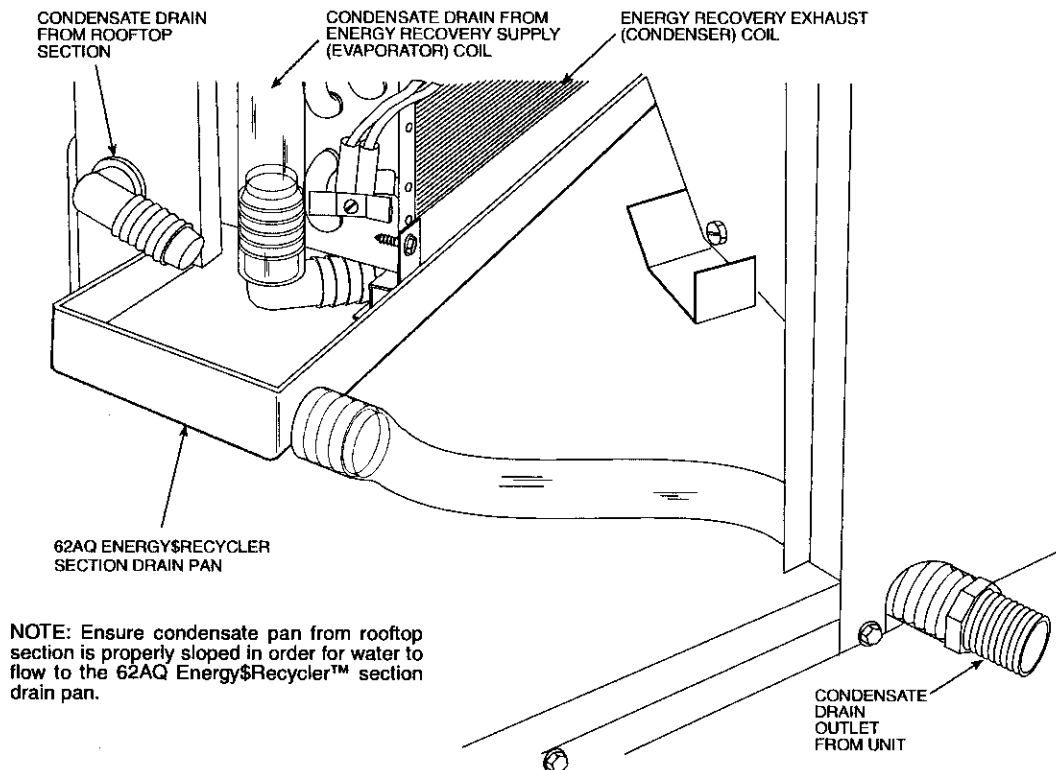

Fig. 12 — Condensate Drain Location
Step 7 — Install External Trap For Condensate Drain — The condensate from the rooftop unit along with condensate from the upper coil of the 62AQ Energy\$Recycler™ section is internally piped to the condensate pan in the lower section of the 62AQ Energy\$Recycler section. See Fig. 12. For